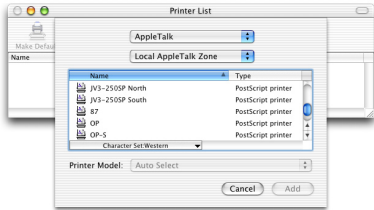

Figure 5—Select a Printer
6. Select the appropriate printer from the list (see Figure 5).